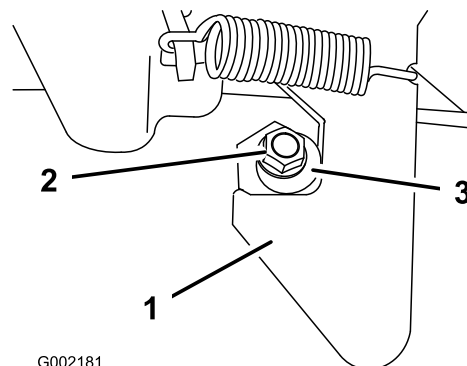

Figure 17
2. Gently lower the front of the cargo bed until the latch contacts the latch post (Figure 17).
4. Loosen the locknut on the end of the latch post (Figure 17).
5. Rotate the latch post clockwise until it is snug against the hook portion of the latch (Figure 17).